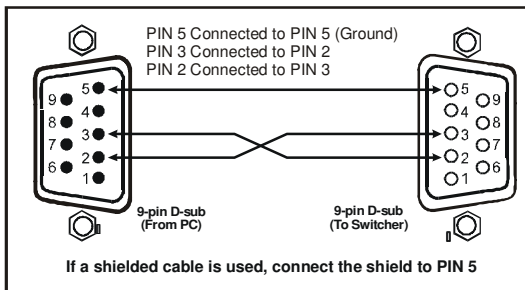

Figure 6: Connecting the PC
- Connect the RS-232 9-pin D-sub port on your PC to the RS-232 9-pin D-sub rear panel port on the **VP-2x2** unit, forming a cross-connection¹, as Figure 6 illustrates